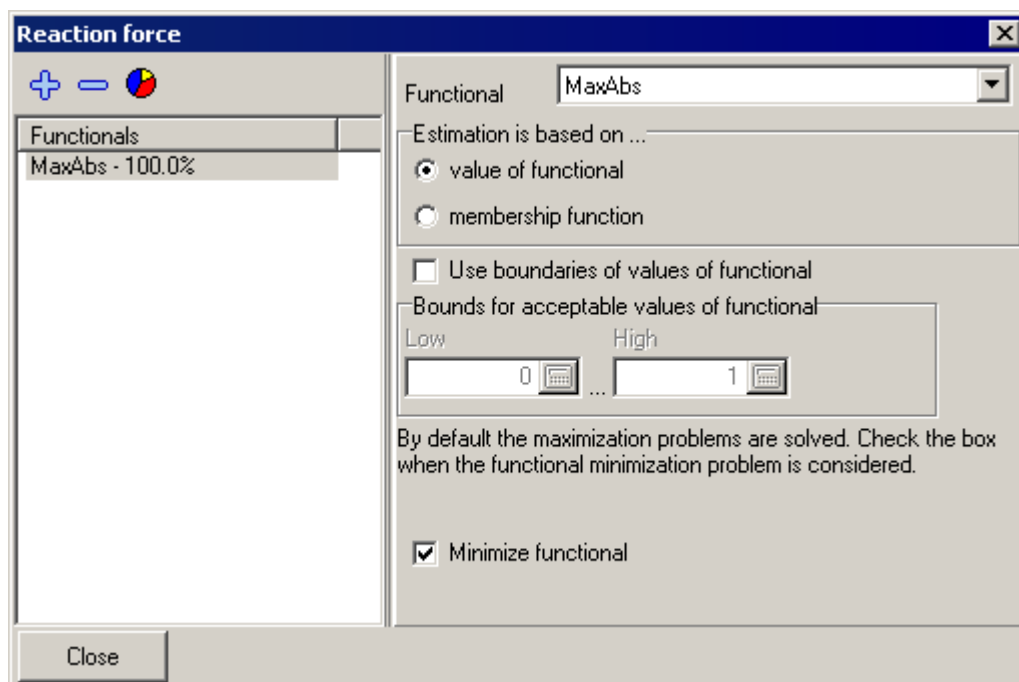

Figure 5.15. Functional
7. Set **Functional** to **MaxAbs** (maximum in absolute value), see Fig. 5.15.